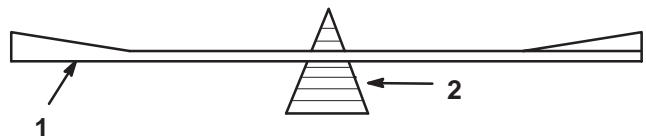

Figure 30
2. Check the balance of the blade by putting it on a blade balancer (Fig. 30). If the blade stays in a horizontal position, the blade is balanced and can be used. If the blade is not balanced, file some metal off of the back side of the blade. Repeat this procedure until the blade is balanced.